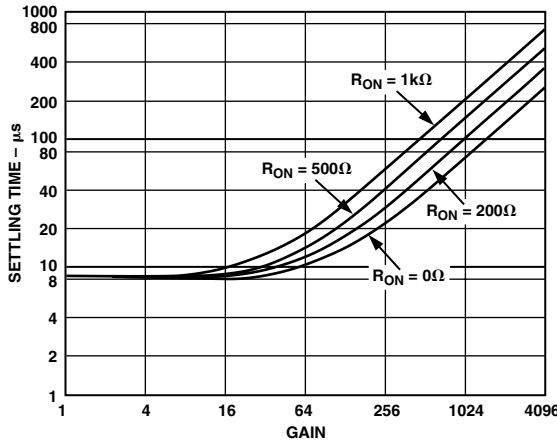

Figure 40. Time to 0.01% of a 20 V Step Input for SPGA with AD625
- *The frequency response and settling will be affected by the ON resistance and internal capacitance of the multiplexer. Figure 40 shows the settling time vs. ON resistance at different gain settings for an AD625 based SPGA.